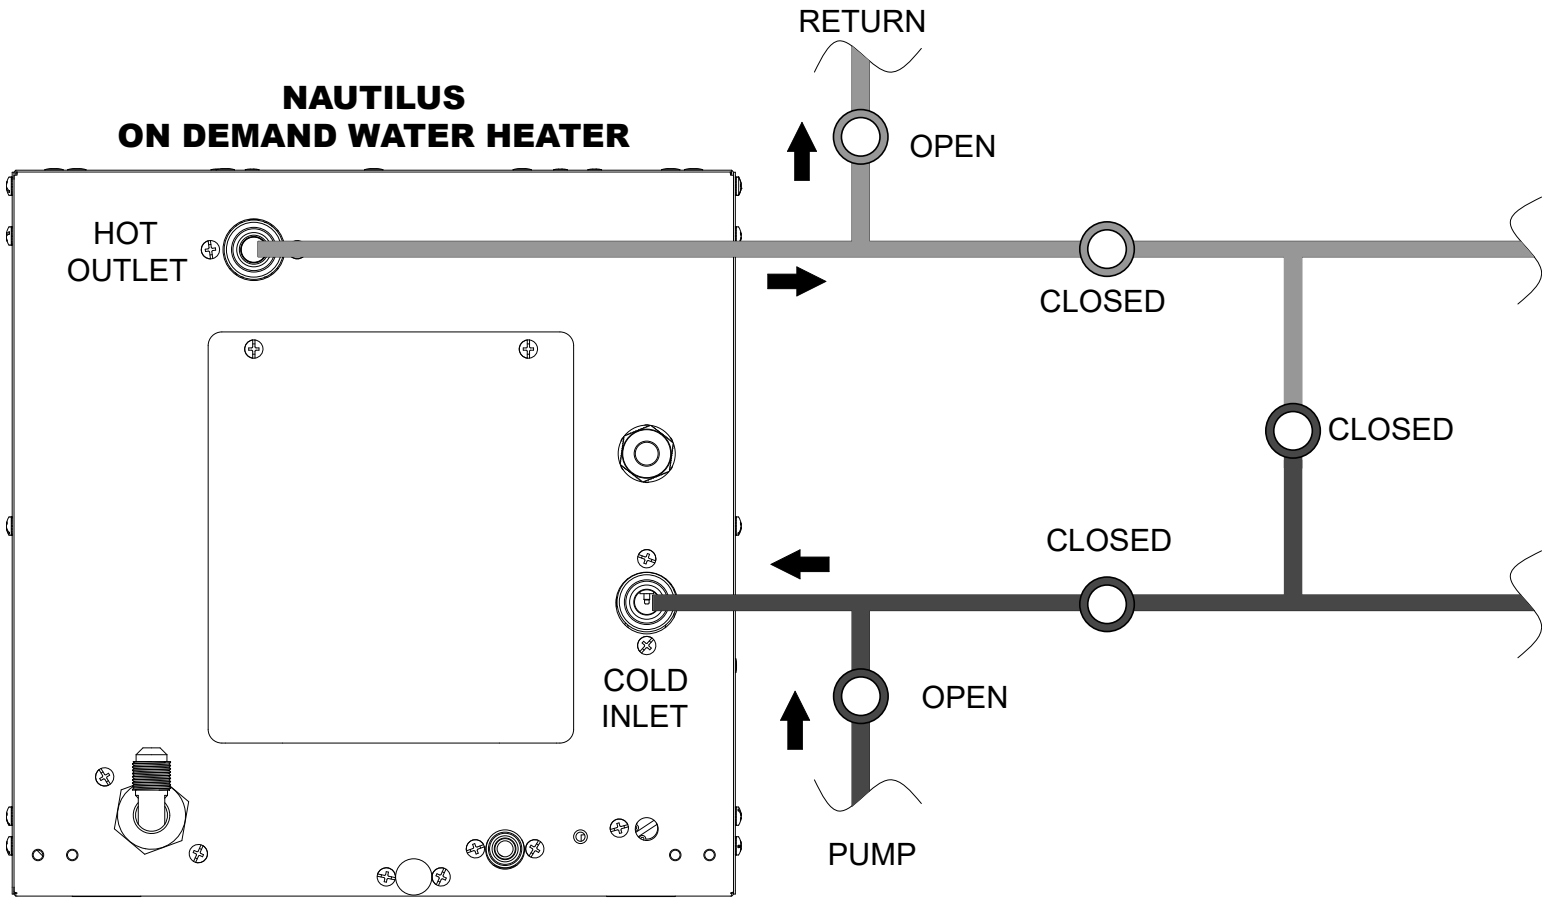

FIGURE 5
- e. Figure 5 shows a 3 valve crossover system in bypass mode to prevent water flow through the water heater for servicing and winterization.